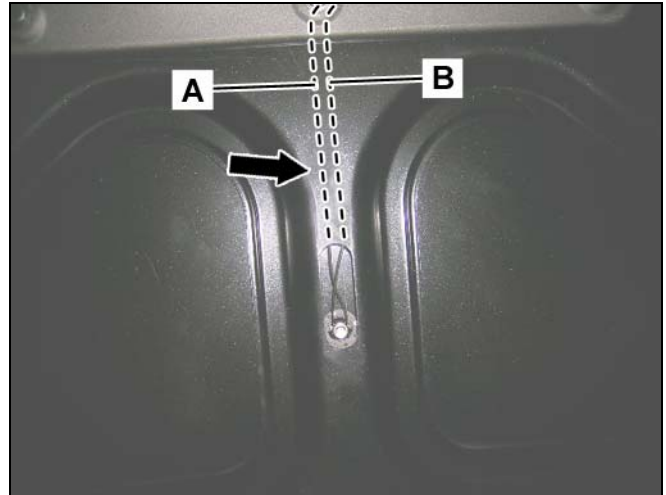

Figure 7
11. Route the SDARS antenna leads (A and B, Figure 7) up through the hollow support beam running along the center of the trunk lid underside so the connectors come out the opening up top.
8. Route the SDARS antenna lead (A, Figure 7) up through the hollow support beam running along the center of the trunk lid underside so the connector come out the opening up top.